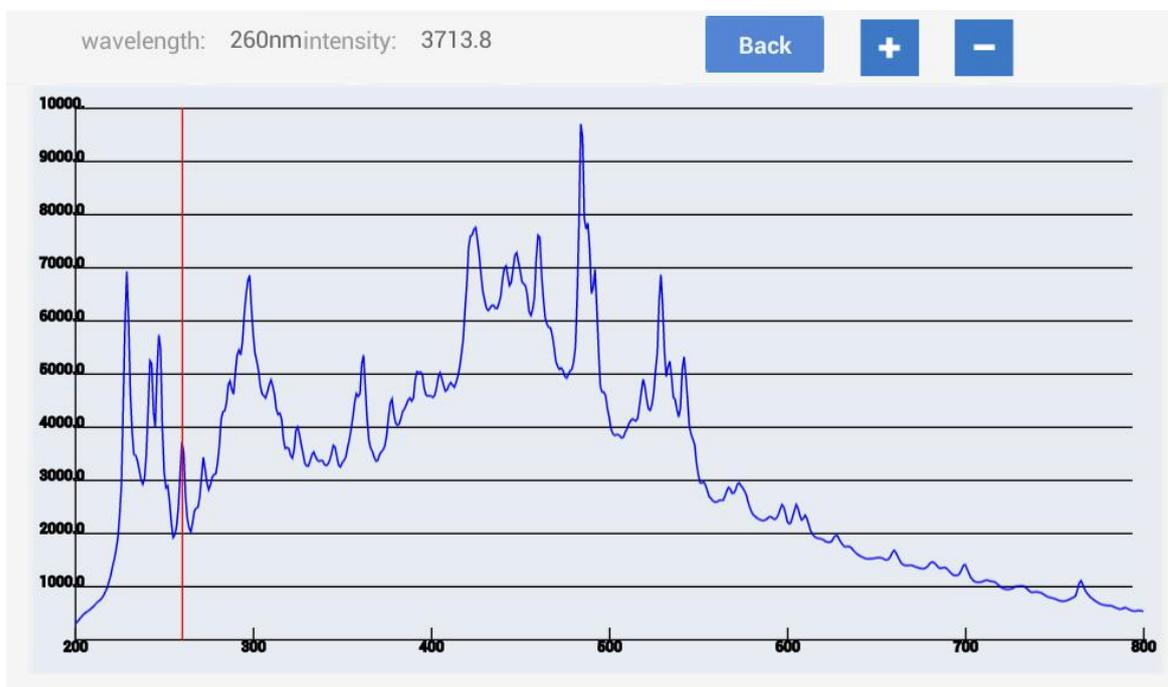

Fig 4.23 The sample light intensity
③ After blank detection, click **Measure** and then **Sample data** will be available. Click it enter the interface as Fig 4.23. It shows the light intensity of 200-800 wavelength.